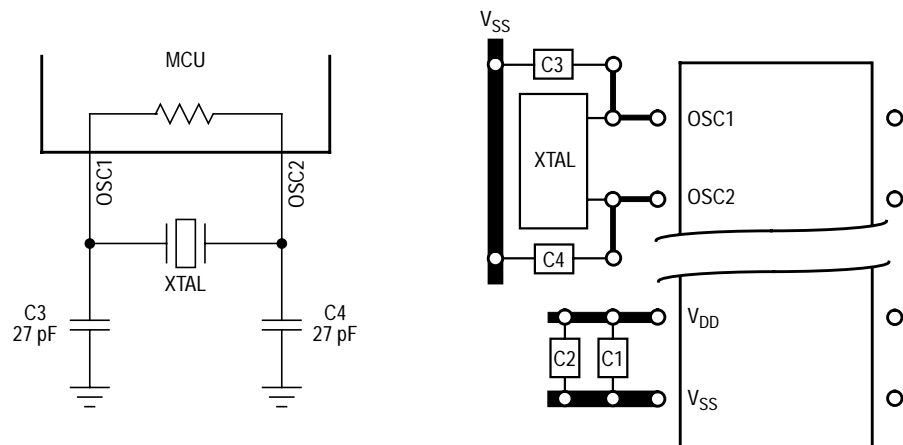
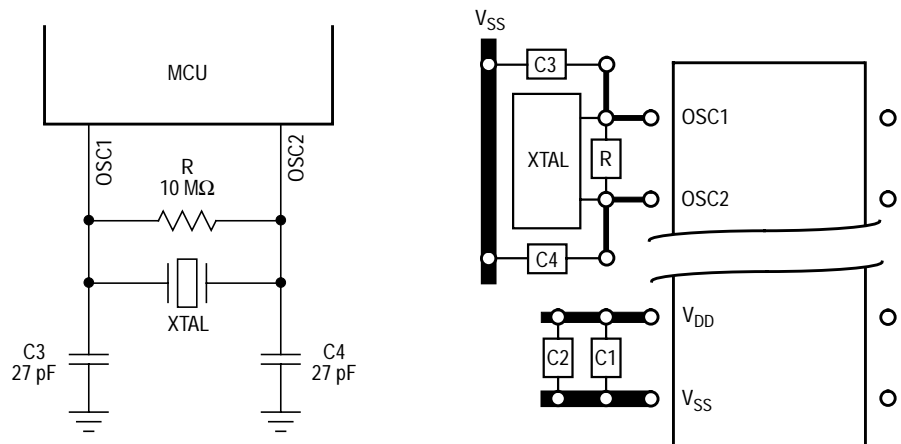

Figure 3. Crystal Connections with Oscillator Internal Resistor Mask Option
Figure 4. Crystal Connections without Oscillator Internal Resistor Mask Option
1. Standard crystal (See Figure 3 and Figure 4.)
Figure 3 and **Figure 4** show a typical crystal oscillator circuit for an AT-cut, parallel resonant crystal. Follow the crystal supplier's recommendations, as the crystal parameters determine the external component values required to provide reliable startup and maximum stability. The load capacitance values used in the oscillator circuit design should include all stray layout capacitances.